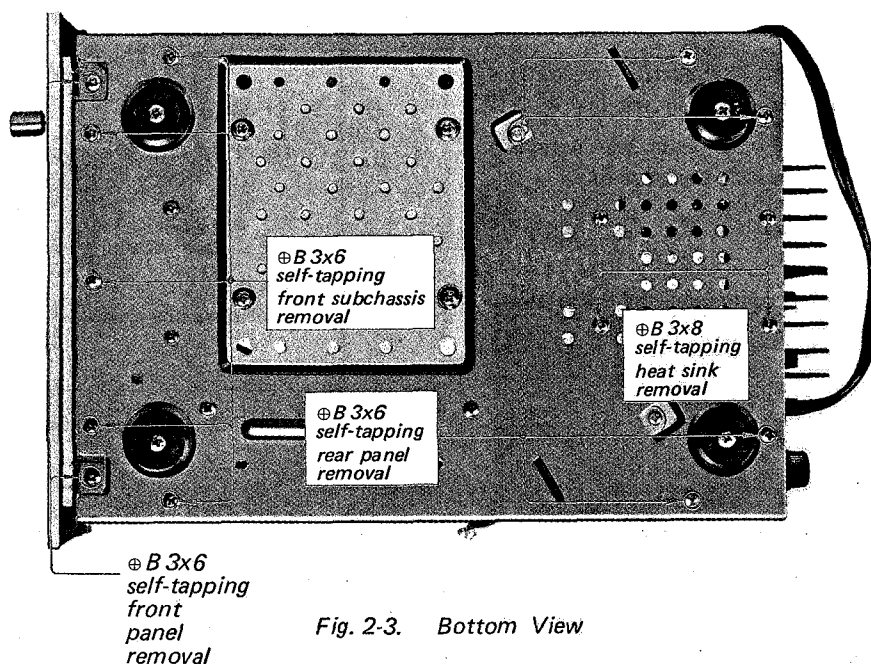

Fig. 2-3. Bottom View
4. Remove the two self-tapping screws (⊕ B 3x6) at the front bottom of the chassis as shown in Fig. 2-3. This frees the front panel.
2. Remove the five self-tapping screws ($\oplus B 3 \times 6$) at front bottom of the chassis as shown in Fig. 2-3. This frees front sub-chassis.
2. Remove the two self-tapping screws ($\oplus B 3 \times 8$) securing the heat sink to the chassis at the bottom as shown in Fig. 2-3.
2. Remove the four self-tapping screws ($\oplus B 3 \times 6$) at the rear bottom of the chassis as shown in Fig. 2-3. This frees rear panel.